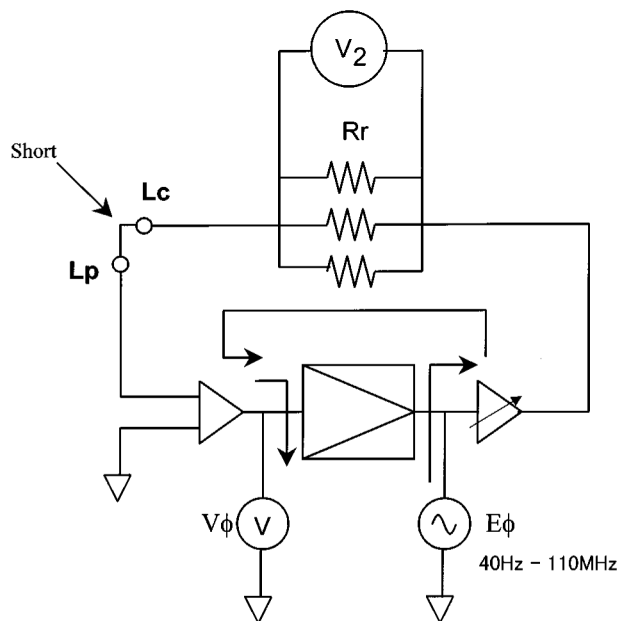

Figure 6. Bridge stability improvement by phase adjustment
As one more solution to address technical barrier no. 1 (the bridge balance problem at higher frequencies), the 4294A has a special circuit designed to compensate for the null-loop characteristics, which can vary with frequency and cable length. The circuit diagram is shown in Figure 6. In the null-loop circuit, the vector voltmeter ( $V\phi$ ) and local oscillator ( $E\phi$ ) are respectively placed before and after the narrow-band, high-gain amplifier.
- Supply a signal from the signal source  $E\phi$  clockwise through the null-loop circuit. (See Figure 6.) Measure  $V\phi$ .